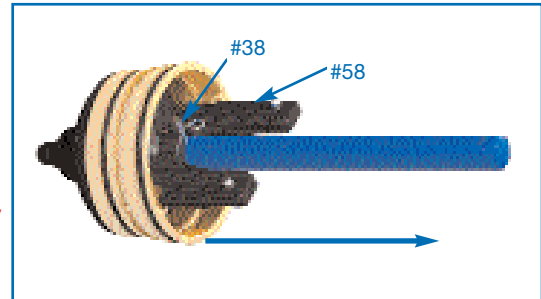

Fig. 5
9. If any of the above parts are to be replaced, clamp the Lower Stem Rod (#41) in a standard pipe vise. (See Fig. 5) Remove the Stop Pins (#58) from the Main Valve Disc (#61) and slide the Valve Seat Ring (#51) off the ears of the Main Valve Disc. To disconnect the Main Valve Disc from the Lower Stem Rod (#41) remove the Spring Pin (#38) from the Main Valve Disc retaining Pin (#60).